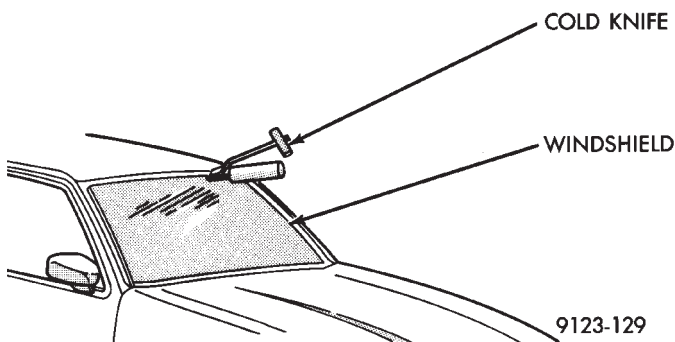

Fig. 4 Cut Urethane Around Windshield—Typical WINDSHIELD INSTALLATION
(4) Cut urethane bonding from around windshield using a suitable sharp cold knife. A pneumatic cutting device can be used if available (Fig. 4).
(5) Separate windshield from vehicle.